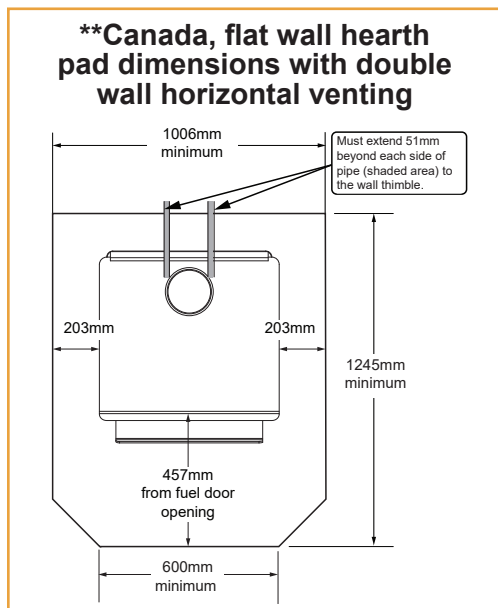

Figure 11.2 - **These dimensions will vary depending installation.
In Canada, similar floor protection must be provided 18 inches (457mm) in front and 8 inches (203mm) from the sides and rear of the appliance unless the hearth pad is placed against the wall (**Figure 11.2**). Then the clearance may be reduced using double wall pipe and the Clearance to Combustibles table listed.
***Exception:** Non-combustible floor protector must extend beneath the flue pipe when installed with horizontal venting and extend 2 inches (51mm) beyond each side (**Figure 11.2**).